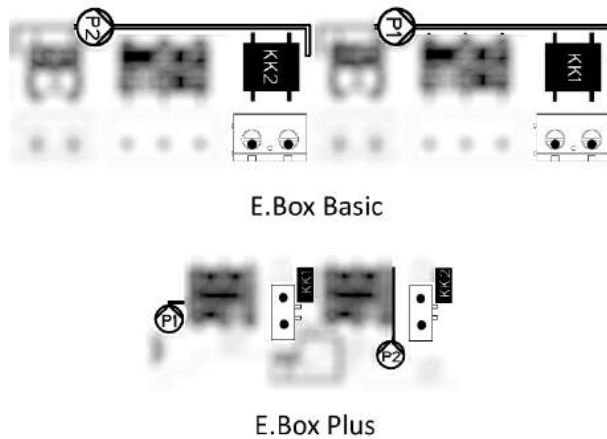

Figure 9: Thermal protection inputs KK
- **Motor thermal protection:** the device has an input for the thermal protection of each motor. If the motor used is provided with thermal protection, this protection can be connected to the terminals KK shown in Figure 9. If there is no protection in the motor, the terminals must be jumpered.